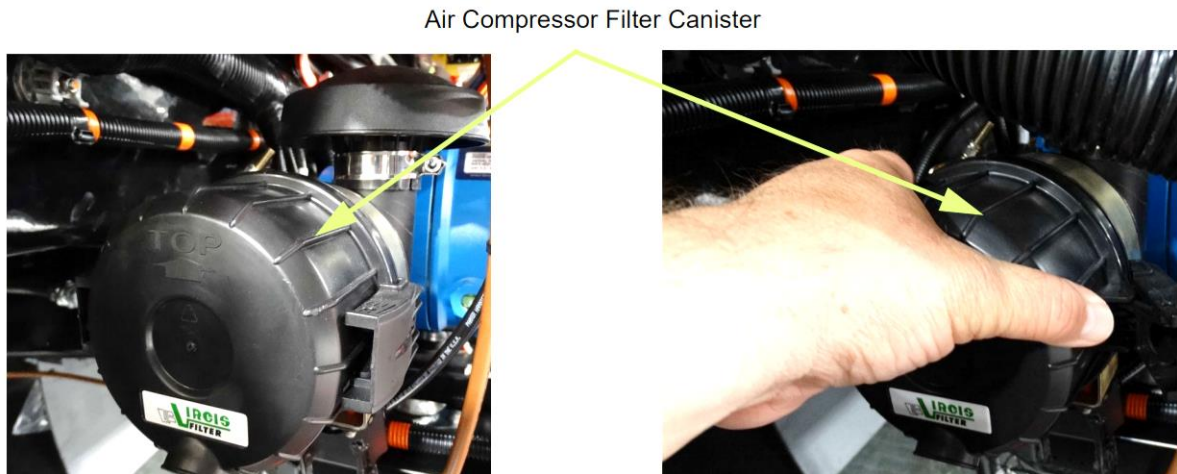

Figure 6: Air Compressor Filter Canister
16. Locate the air compressor filter canister behind the upper streetside rear access panel, release the two latches holding the outer cover, and remove the outer cover from the filter canister as shown in Figure 6.